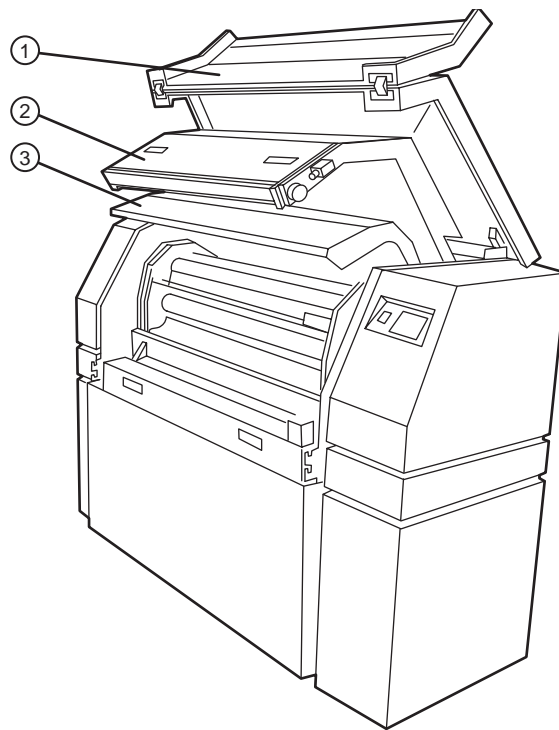

Figure 4-41 Imagesetter outer and inner covers.
2. Open the top cover. Refer to Figure 4-41.